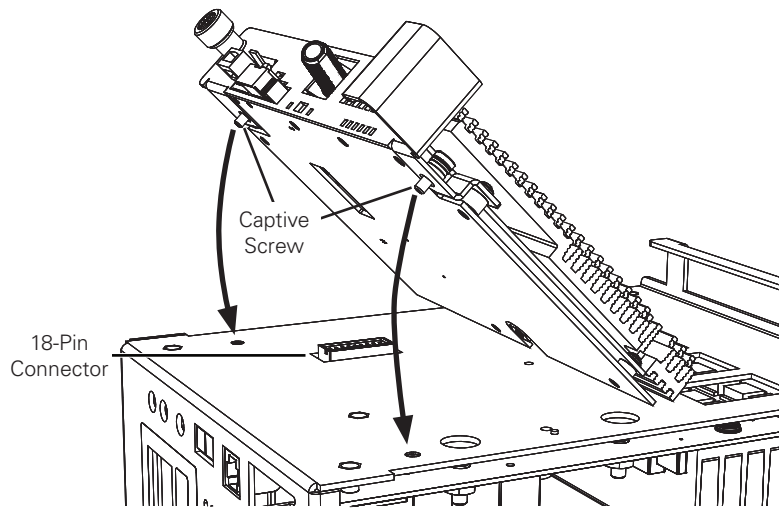

Fig. 7-2, Inserting Captive Screws
- Lower the transponder down so it's flush with the power supply and ensure the captive screws align with their designated holes (**Fig. 7-2, Inserting Captive Screws**). Ensure the PCBA slot is centered with the 18-pin connector.